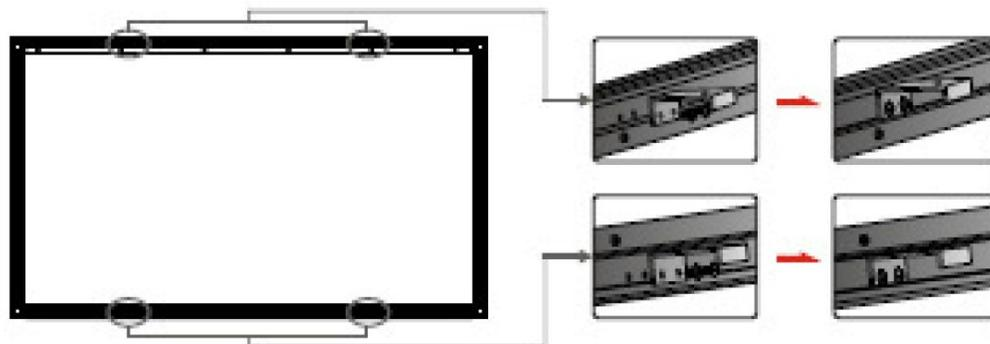

Figure 10
- Included are four brackets labeled 1-4. Slide these onto the frame, aligning each bracket with the matching number on the frame (Figure 10).